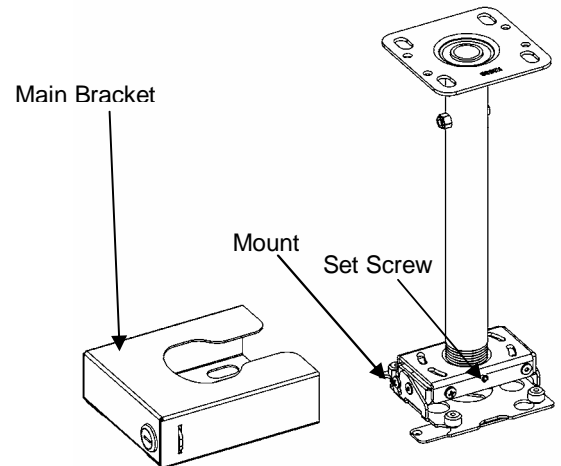

Figure 2. Main Bracket On Pole
1. With lock mechanism located on left side of mount set screw, slide Main Bracket (10) onto pole above projector mount (see Figure 2).